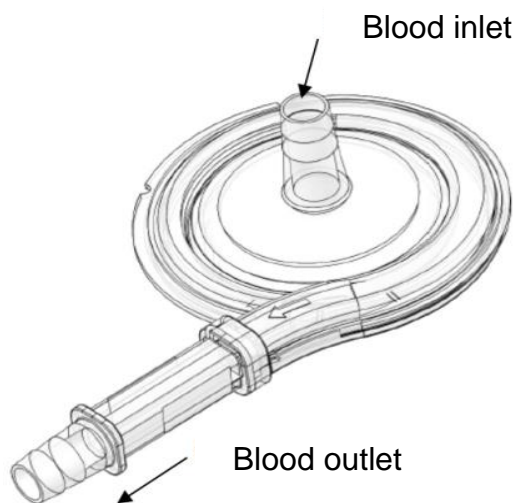

Figure 1 – Connectors of Centrifugal Pump Safira Centriflux with BRCoating.
Figure 1 illustrates the Centrifugal Pump (CP) Safira Centriflux with BRCoating and the blood inlet and outlet connectors.